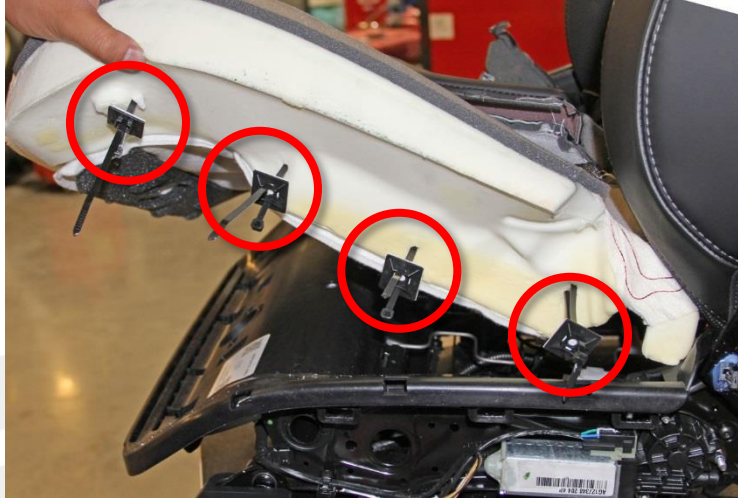

Figure 17
11. Repeat the previous step to install 3 additional cable ties and mounts (Figure 17).